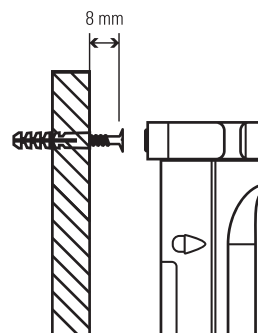

Fig. 3. Wall mounting detail.
- ① Power cable.
- ② Resettable circuit breaker switch.
- ③ On/off switch.
- ④ Power sockets with child safety device.
- ⑤ MASTER power socket with child safety device.
- ⑥ SLAVE power socket with child safety device.
- ⑦ Integrated, swivelling, wall-mountable cable collector (see Fig. 3 and Fig. 4).
- ⑧ 20 W USB-A quick charger connector.
- ⑨ 20 W USB-C quick charger connectors.
- ⑩ MASTER/SLAVE function indicator LEDs.
- ⑪ MASTER/SLAVE function control switch.
- ⑫ "PROTECTED" active mains protection indicator light.